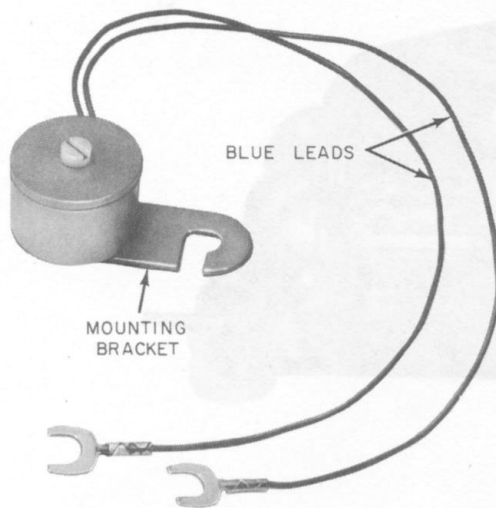

Fig. 7—KS-20419L1 Buzzer
2.14 The miniature KS-20419L1 buzzer (Fig. 7) is 3/4-inch in diameter, 1/2-inch thick, and is equipped with two spade-tipped leads 7-1/2 inches long.